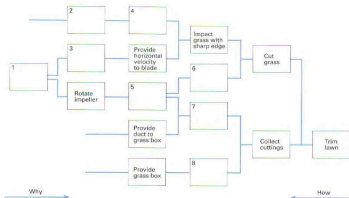

Fig. 2 Functional Analysis System Technique (FAST) diagram
- The designer's goal is to get it right first time. To do this a design process must be used which is effective at producing a good design. An important tool in the design process is the Functional Analysis System Technique (FAST) diagram. This enables the designer to understand the functional relationships of the system being designed. The example illustrated (Fig. 2) shows the technique applied to the design of a lawn-mower.